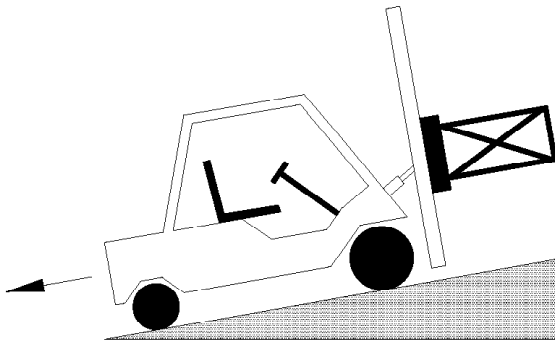

Figure 3-4
6. **Always** back down ramps or inclines. Driving forward down a ramp or incline with a clamped load will lessen the stability of the truck. (Figure 3-4)